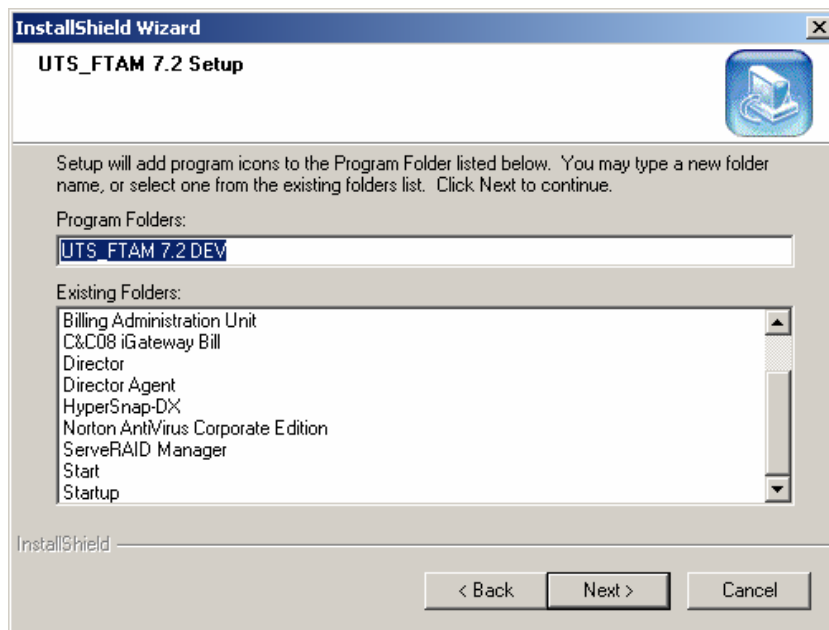

Figure 2-60 Selecting installation folder
- 4) Select [Typical]. Click <Next>. You are prompted to select the installation folder, as shown in Figure 2-60.